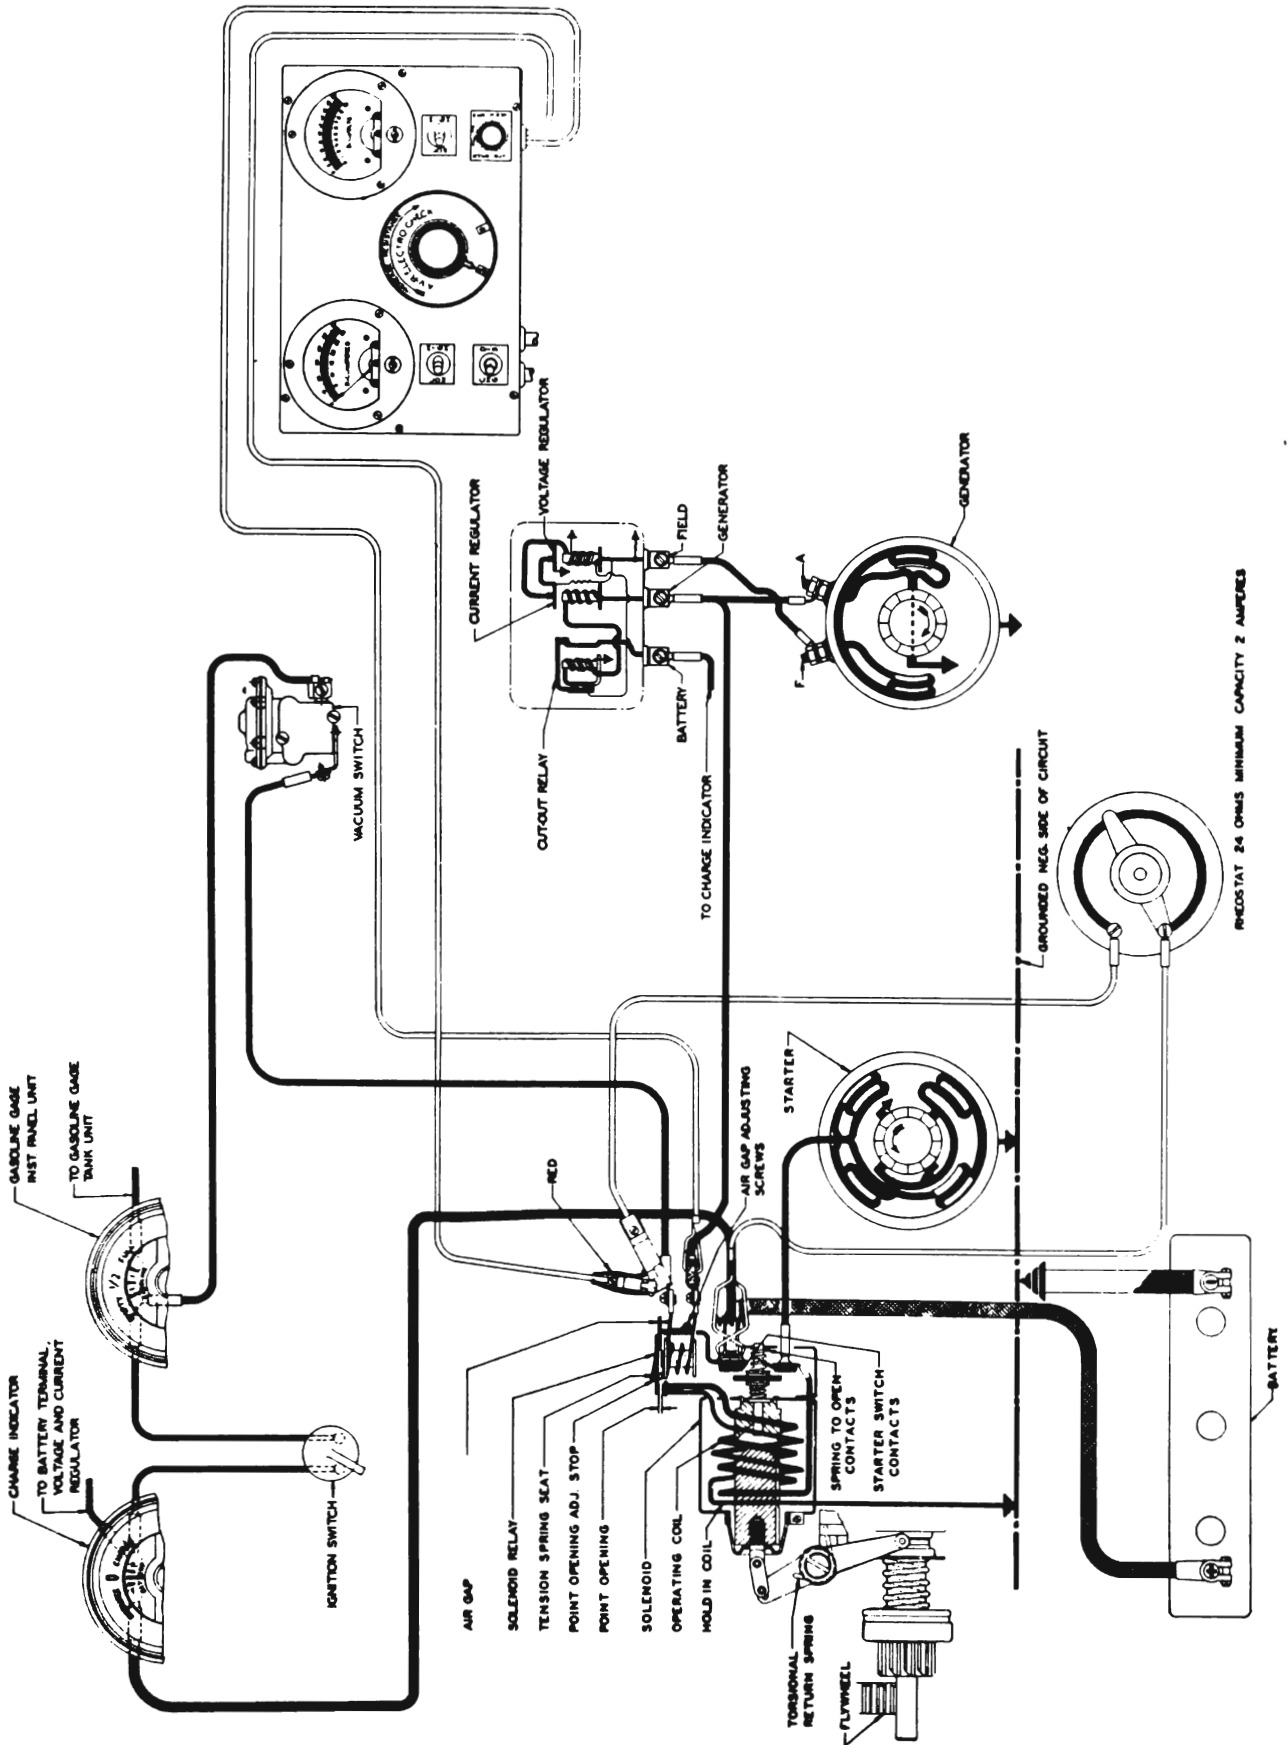

Fig. 12-2. Checking Calibrations of Solenoid Relay—All Series
- (b) Connect lead from one end of rheostat to battery cable terminal on solenoid. See Fig. 12-2.